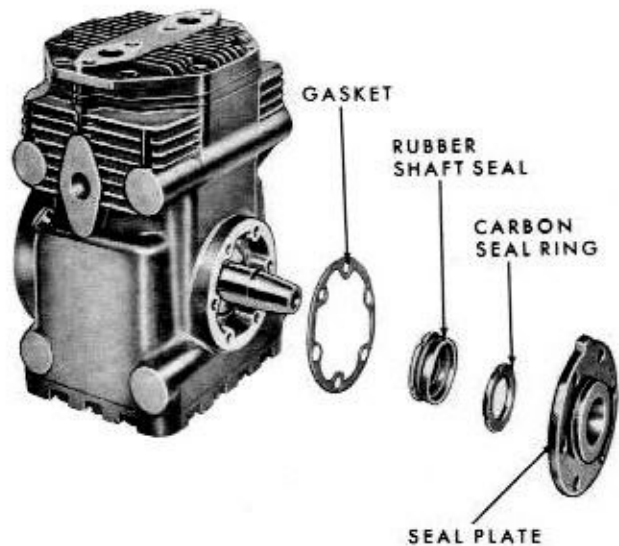

Fig. 8-4—Compressor Shaft Seal Disassembled
4. Remove the capscrews securing the seal plate to the crankcase and remove the seal plate. (Figure 8-4 shows the shaft seal removed.)